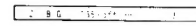

Fig. 24.
- 5 Fine-tune the channel with + or - so that you get the best TV reception. As you press the cursor buttons, the frequency changes from -15 to +15. (See Fig. 24.)